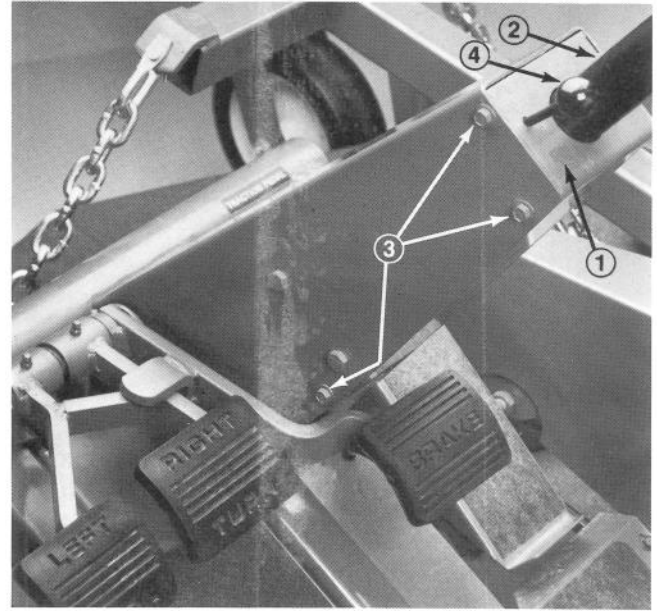

Figure 3
7. Slide steering column cover onto steering post and parking brake rod (Fig. 3). Mount the cover to inside of steering tower with six self tapping screws (1/4 - 20 x 5/8 in.) (Fig. 3). Install the knob on parking brake rod.